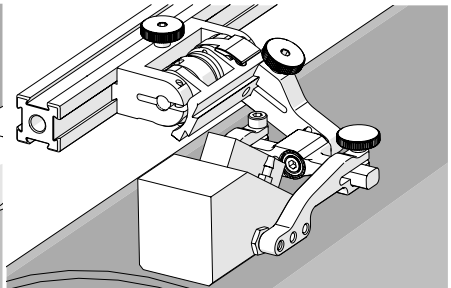

Fig. 124 - Spring loaded scan position
4. Gently lower probe holder and wedge to the scanning surface (Fig. 124).